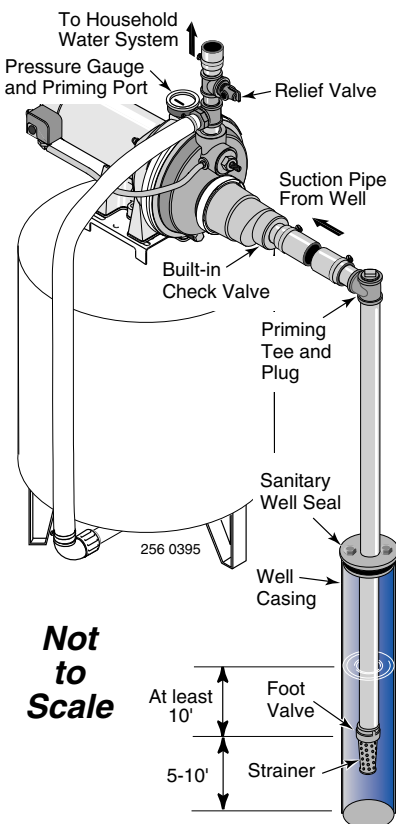

Figure 6: Cased Well Installation
CASED WELL INSTALLATION, 2" OR LARGER CASING (Figure 6)
- Step 4. Assemble the foot valve, strainer, and well pipe (see Figure 6). Make sure that the foot valve works freely.
- Step 6. Install a priming tee, priming plug, and suction pipe to the pump (see Figure 6). Connect the pipe from the well to the pump suction port, using the fewest possible fittings – especially elbows – as fittings increase friction in the pipe. The suction pipe should be at least as large as the suction port on the pump. Use teflon tape or a